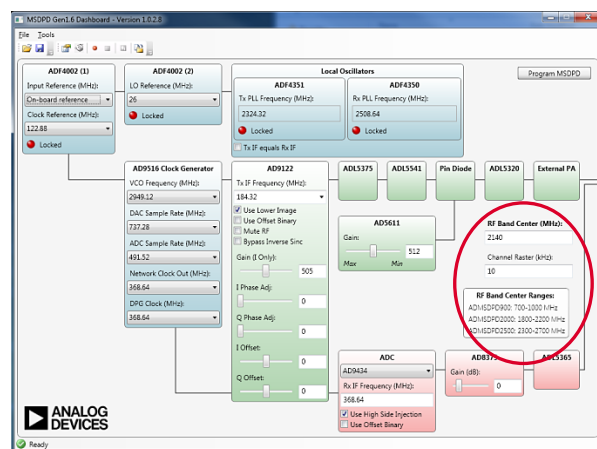

Figure 10. Select RF Band Center Frequency
1. Ensure that the RF band center frequency falls within the range of the board model being used (see Figure 10). Note that changes made to the RF band center frequency automatically update the local oscillator frequencies.